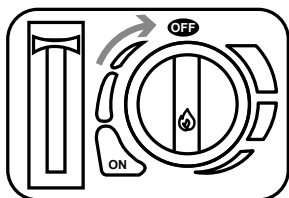
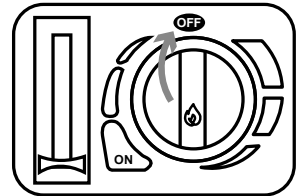

Fig. 1
Fig. 5
- Make sure the canister locking lever is in the 'UNLOCK' position or the gas canister cannot be installed. Make sure the control knob is turned all the way clockwise to the "OFF" position (Fig.1)
- If empty, replace the canister and begin from (Fig. 1).
- Turn the ignition knob to “OFF” to shut off fuel supply (Fig. 5). Wait until the flame is fully extinguished before performing the next step. Raise the canister lock lever to “UNLOCK” and remove the gas canister from the compartment. (Fig.1)